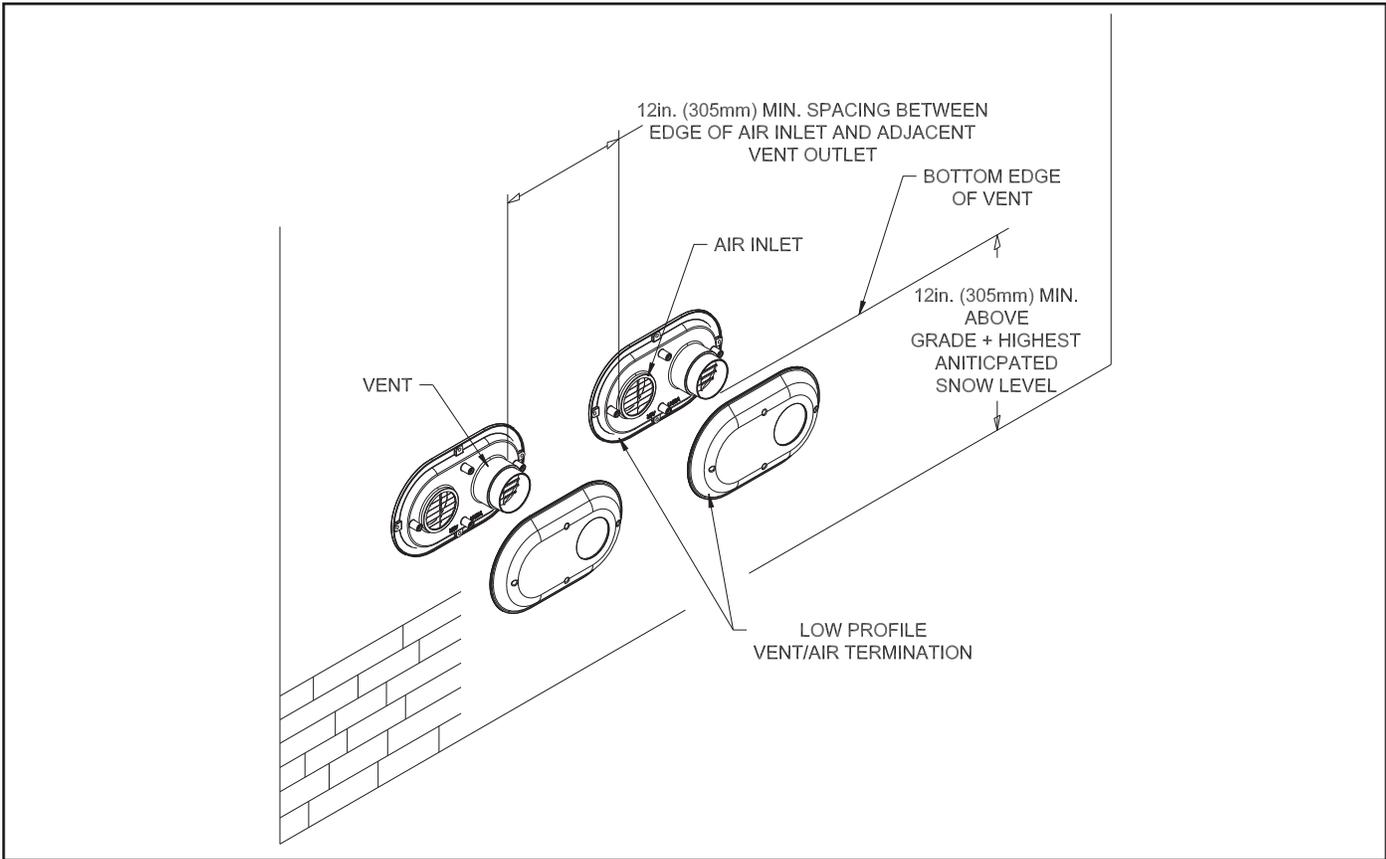

FIGURE 2.3: MULTIPLE BOILER HORIZONTAL VENTING WITH LOW PROFILE TERMINALS
- Low Profile Terminals (Figure 2.3) – Maintain a minimum of 12” between the adjacent inlet and outlet openings as shown in Figure 2.3.